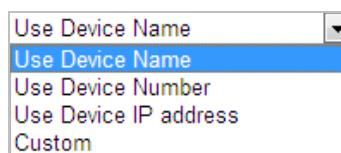

Figure 6-10 Parent Directory
- ◆ **Parent directory:** The files will be saved in a folder in FTP server. The name of folder can be defined as shown in Figure 6-10.